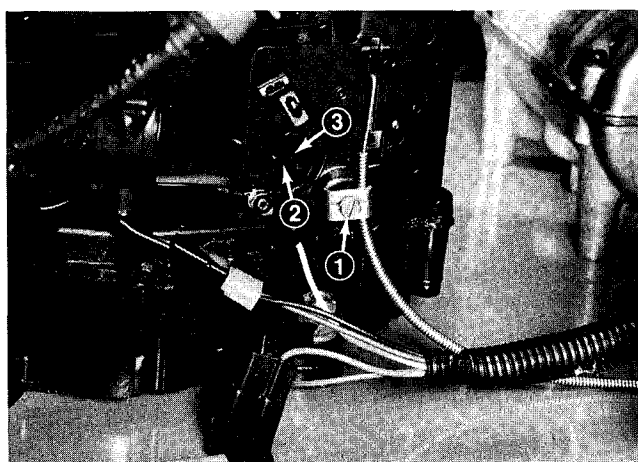

Figure 19
3. Move remote control lever to FAST position. The butterfly should be in the fully open position (Fig. 19).
2. Loosen the throttle cable clamp screw (Fig. 19) and move the control cable casing and wire until the throttle lever touches link.